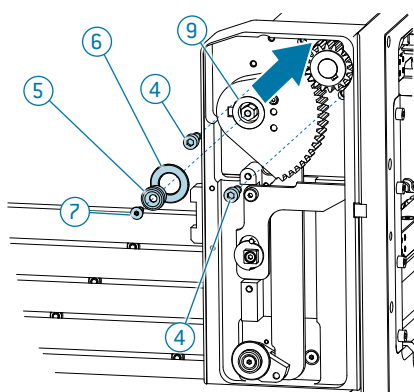

Fig. 191
- ▶ Remove the fixing screws from the cover (3) (hexagon socket width across flats 2.5).
- ▶ Remove the cover from the side panel (2).
- ▶ Remove the fixing screws (4) from the motor and push the motor back until the gears are no longer meshed.*
- ▶ Remove the cover (5) and the washer (6) together with the screw (7) (hexagon socket width across flats 2.5).
- ▶ Place the socket wrench width across flats 8 (1) onto the now-exposed hexagon socket of the locking shaft (9).
- ▶ To unlock the receiver, turn the socket wrench counterclockwise until the system (8) is unlocked completely, see bottom figure.
- ▶ After removing the adapter (ITA), move the socket wrench width across flats 8 (1) back to the home position and reassemble everything by following the steps in reverse order (Fig. 191).